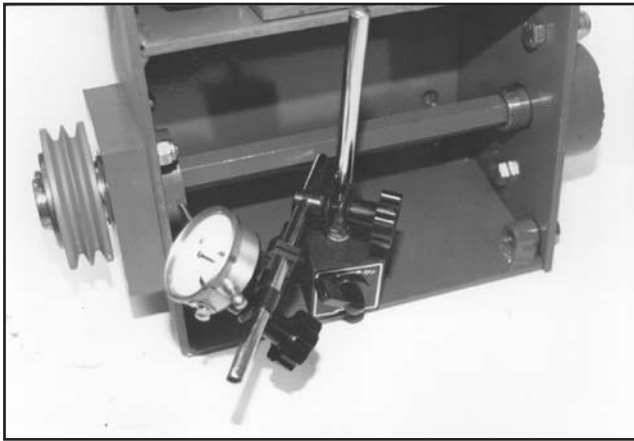

FIGURE 50
a) Position the dial indicator to measure run out on the driveshaft flange. Maximum run out (as measured by the dial indicator gauge) is + - .010 inches (.254 mm). A worn flange surface may not allow an accurate measurement to be taken. FIGURE 50.